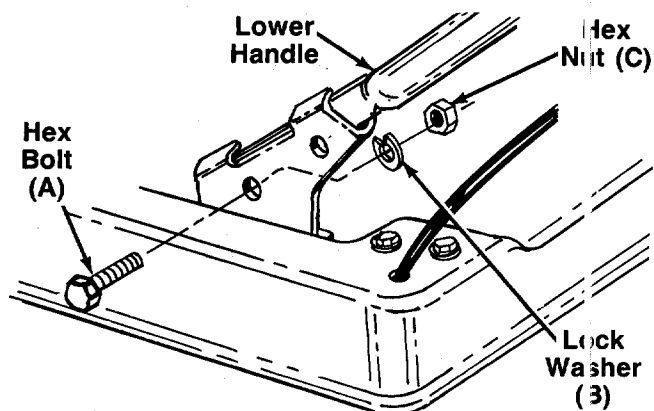

FIGURE 3.
5. Place the lower handle in position on the mower. Secure handle to the left handle mounting bracket (already on the mower) with hex bolt (A), lock washer (B) and hex nut (C). See figure 3. Do not tighten at this time.